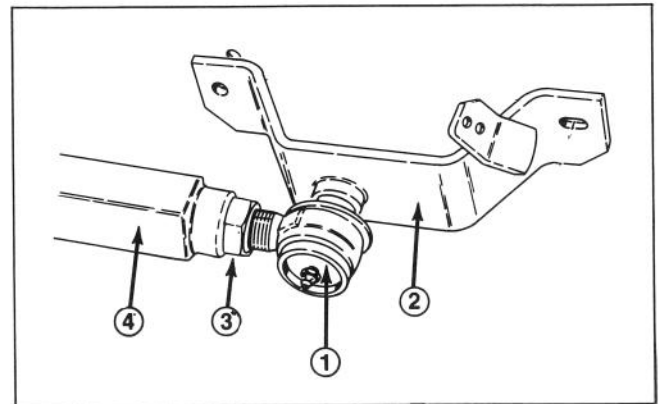

Figure 9
4. Attach the lift arm ball joint to the left hand mounting bracket (Fig. 9) with castle nut and cotter pin. Tighten nut securely before installing the cotter pin.